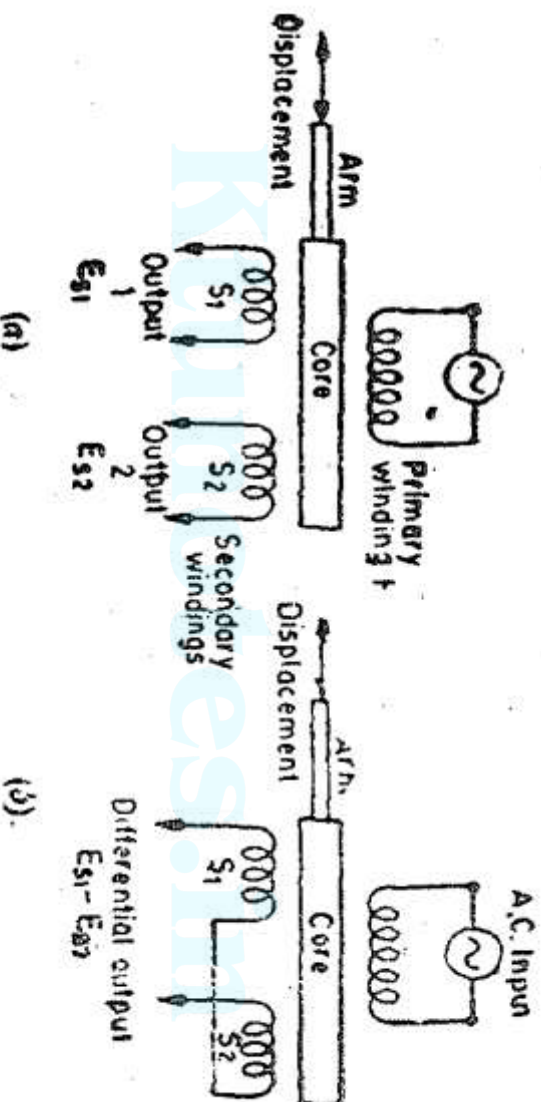

Fig. 25-38. Circuits of an LVDT.
- In order to convert the outputs from S_1 , and S_2 into a single voltage signal, the two secondaries S_1 and S_2 are connected in series opposition as shown in Fig. 25.38 (b).